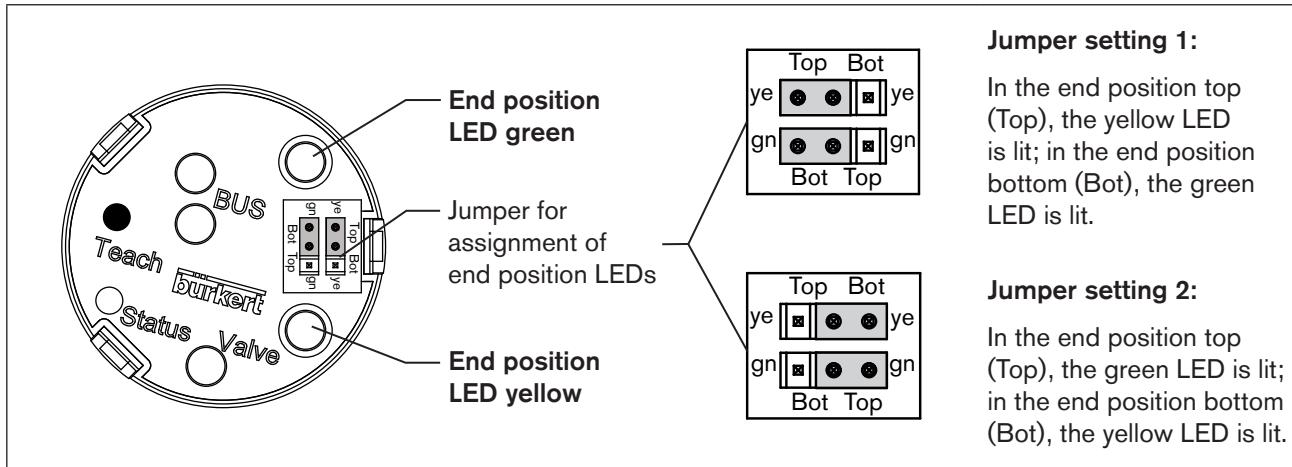

Figure 25: Description LED and Jumpers - AS Interface
- Using the jumpers, assign the required color to the LEDs (see „Figure 25: Description LED and Jumpers - AS Interface“).